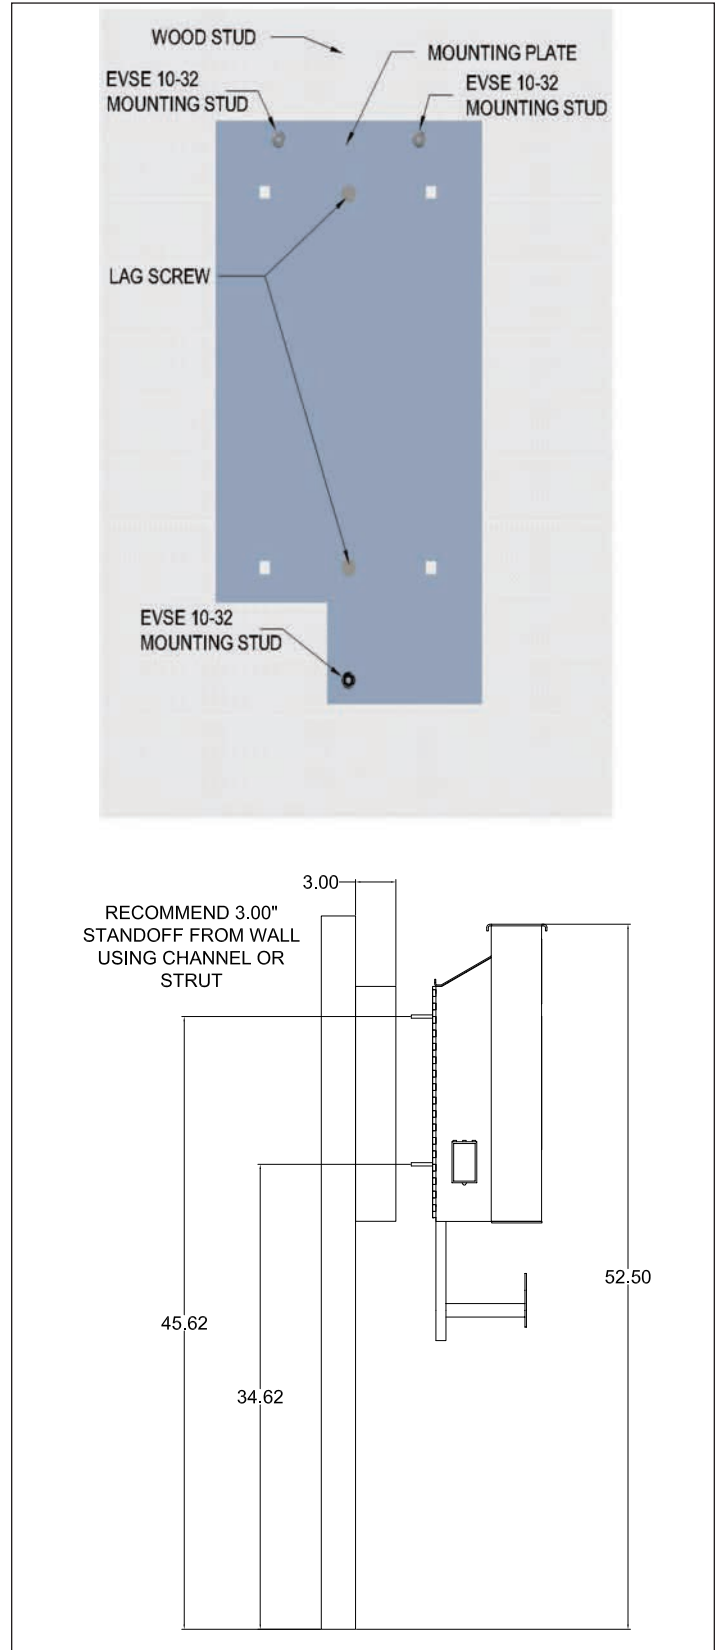

Figure 11. Typical Wall Mounting.
- Step 4:** Attach mounting plate to the wall as shown in Figure 11. If installing on a wood stud, use 5/16" or 3/8" x 3" long Lag screws and washers. These should be galvanized or stainless steel for weather protection if mounting outdoors. If mounting onto a concrete, block, or brick wall, use an appropriate anchor for the type of wall on which you are installing the unit. Again, these should be appropriate for weather conditions if mounting outside.